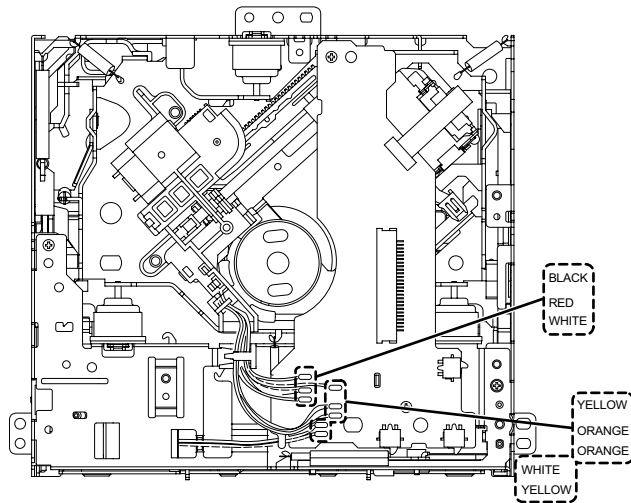

Fig.2
- (2) Remove the 8 wires from the Mecha control board. (See Fig.2)